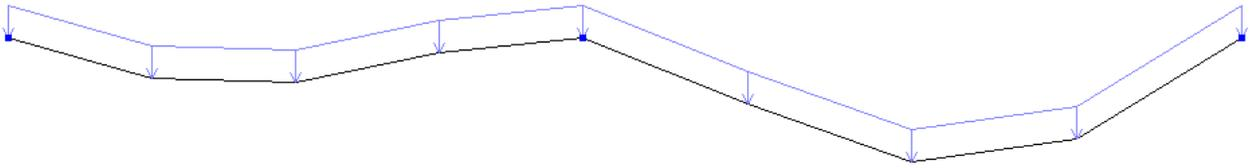

Figure 19.23 Design model with account of nodal displacements
- ⇒ In the mode of analysis results visualization, by default design model is presented with account of nodal displacements (see Fig.19.23). To display the model without nodal displacements, on the **Results** ribbon tab, on the **Deformations** panel, click **Initial model** button .